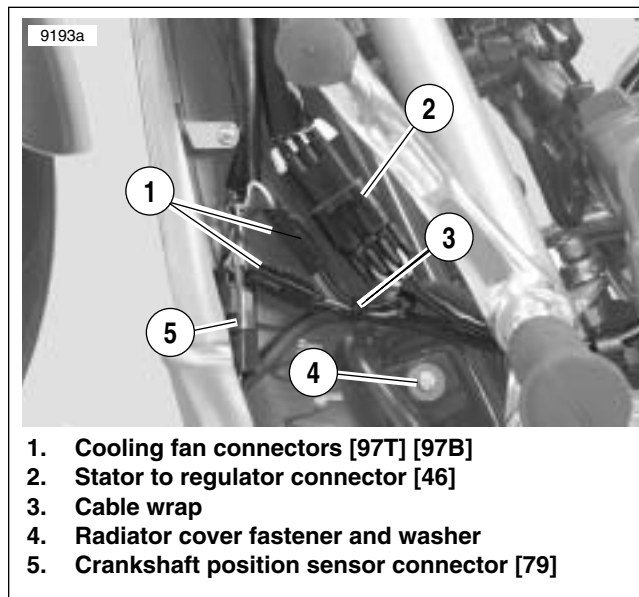

Figure 8-70. Cooling Fan Wiring Harness Connectors (typical) (VRSCA shown)
5. See Figure 8-70. Clip cable wrap (3) to secure cooling fan wire harness to crankshaft position sensor (CKP) harness.
6. Push straight down to remove stator to regulator connector (2) [46] from metal clip on side of radiator cover.
13. Separate stator to regulator connector (2) [46].
14. Remove top cooling fan connector (1) [97T] from radiator cover by rocking first one way and with a finger pull the connector tab to compress butterfly peg.
15. Separate top cooling fan wiring harness connector (1) [97T] and bottom cooling fan connector [97B].
3. Mount radiator cover with fasteners (3) and washers. Tighten to 4.1-6.8 Nm (36-60 **in-lbs**).
4. See Figure 8-70. Cable wrap (3) cooling fan wiring harnesses to crankshaft position sensor (CKP) wiring harness (5).
6. Mate stator to regulator connector [46] and slide stator to regulator connector (2) down on metal clip on left side radiator cover.